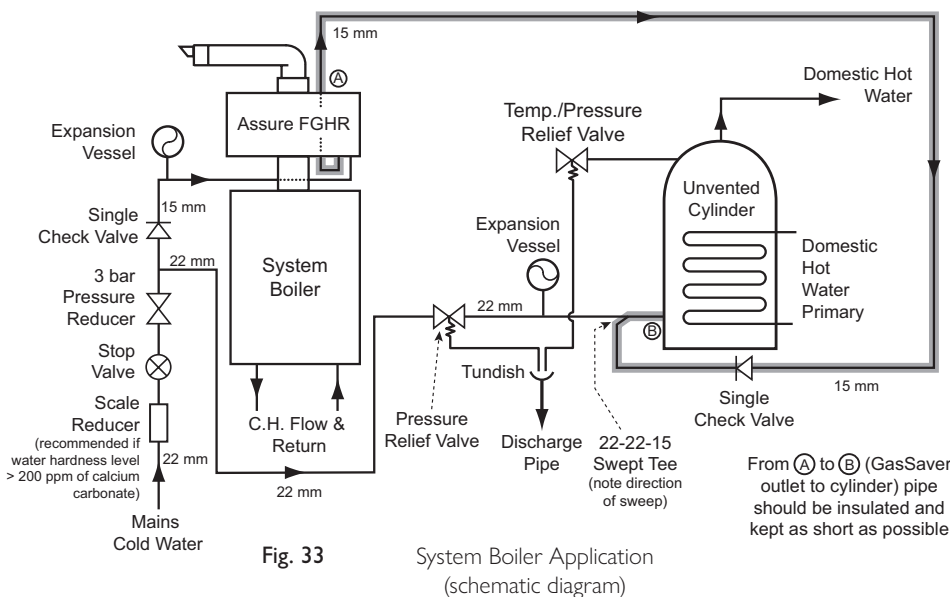

Fig. 33 System Boiler Application (schematic diagram)
2. **System boilers** - Ensure that the components of the System Boiler Application kit (7736697 - includes a swept tee) are fitted in accordance with Fig. 33.